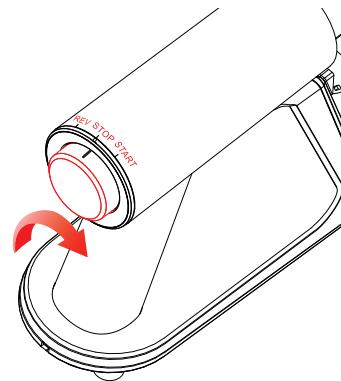

Рис. 8
- Wash fruit or vegetables and chop them into pieces easily fitting into the feeding chute (3).
- Place the containers (14, 15) under the pulp tap (8) and juice draining tap (9).
- Open the juice draining tap (9) by turning the lid (10).
- Switch on the juice extractor by setting the switch (13) to the «START» position (fig. 8).